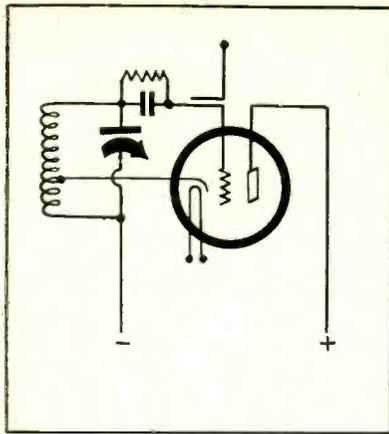
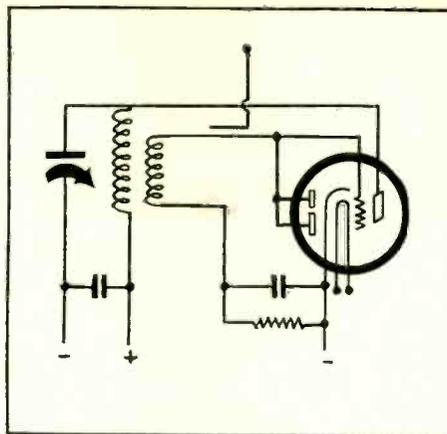
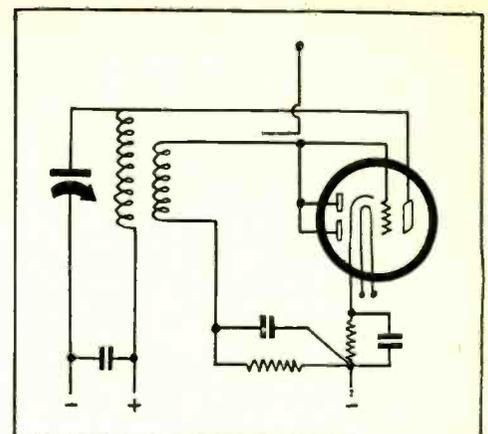

FIG. 1
FIG. 2
FIG. 3
If any oscillators of this type oscillate at all, at the low frequency end, they oscillate enough all over the dial, and a small output is generally preferable to a large one. The simple modified Hartley oscillator, Fig. 1, was built for a-c operation, line connected to plate and return, and it was possible to develop an oscillation voltage of 300 volts at 50 kc, so that at the low frequency settings there was arcing between closely-separated plates of the tuning condenser. By locating the tap farther down the oscillation may be reduced, and if the tap is too far down, the oscillation will stop.
Fig. 1 is a grid-leak-condenser type oscillator. There is no bias on the grid except that resulting from the flow of grid current. Or it might be preferable to state that the grid current may run so high that if the leak is high the voltage drop across the leak may be 300 volts. Thus ordinary grid leaks would get hot and soon burn out. Something in the nature of a higher-wattaged transmitter leak would then be necessary, for this is a strong transmitter.
With a separate tickler one-quarter the number of grid turns is usual, with rather tight coupling, for triode tubes; more turns and perhaps even tighter coupling for tubes of higher  $\mu$ , including pentodes. However, for the modified Hartley in Fig. 1, using a 56, the number of turns between tap and return need not be more than one-eighth the total grid turns for other than short waves, as the coupling is extremely tight. The winding is in fact continuous.
So within practical limits, a good oscillator may be built on the pattern of Fig. 1, with output taken from the grid circuit principally, for there the harmonics are lower and power greater, so a small piece of insulated wire run for two inches alongside of the connection to leak will constitute a satisfactory condenser plate even for frequencies as low as 50 kc.
Fig. 1 uses a 56 tube, though other cathode type tubes may be used, including pentodes, by applying the required terminal voltages. In all instances the output will be rich in harmonics, and the harmonics are nearly equally strong to the tenth or more, due to the steepness of the plate current change. The grid swing, as explained, is extremely wide.
Now consider a tuned plate circuit oscillator, Fig. 2. Here a 55 tube is used. There is a step-down ratio between plate and grid. The tube is negatively biased. Hence an operating point on the tube characteristic may be selected where the resultant harmonics will be small, nearly nil. It is valuable
**Upper Row**—Fig. 1 is a modified Hartley oscillator, using grid-current bias. Fig. 2 represents an attempt to introduce a rectifier, but the circuit is practically identical with Fig. 1. Fig. 3 introduces a cathode biasing resistor, but practical identity with Fig. 1 is retained.